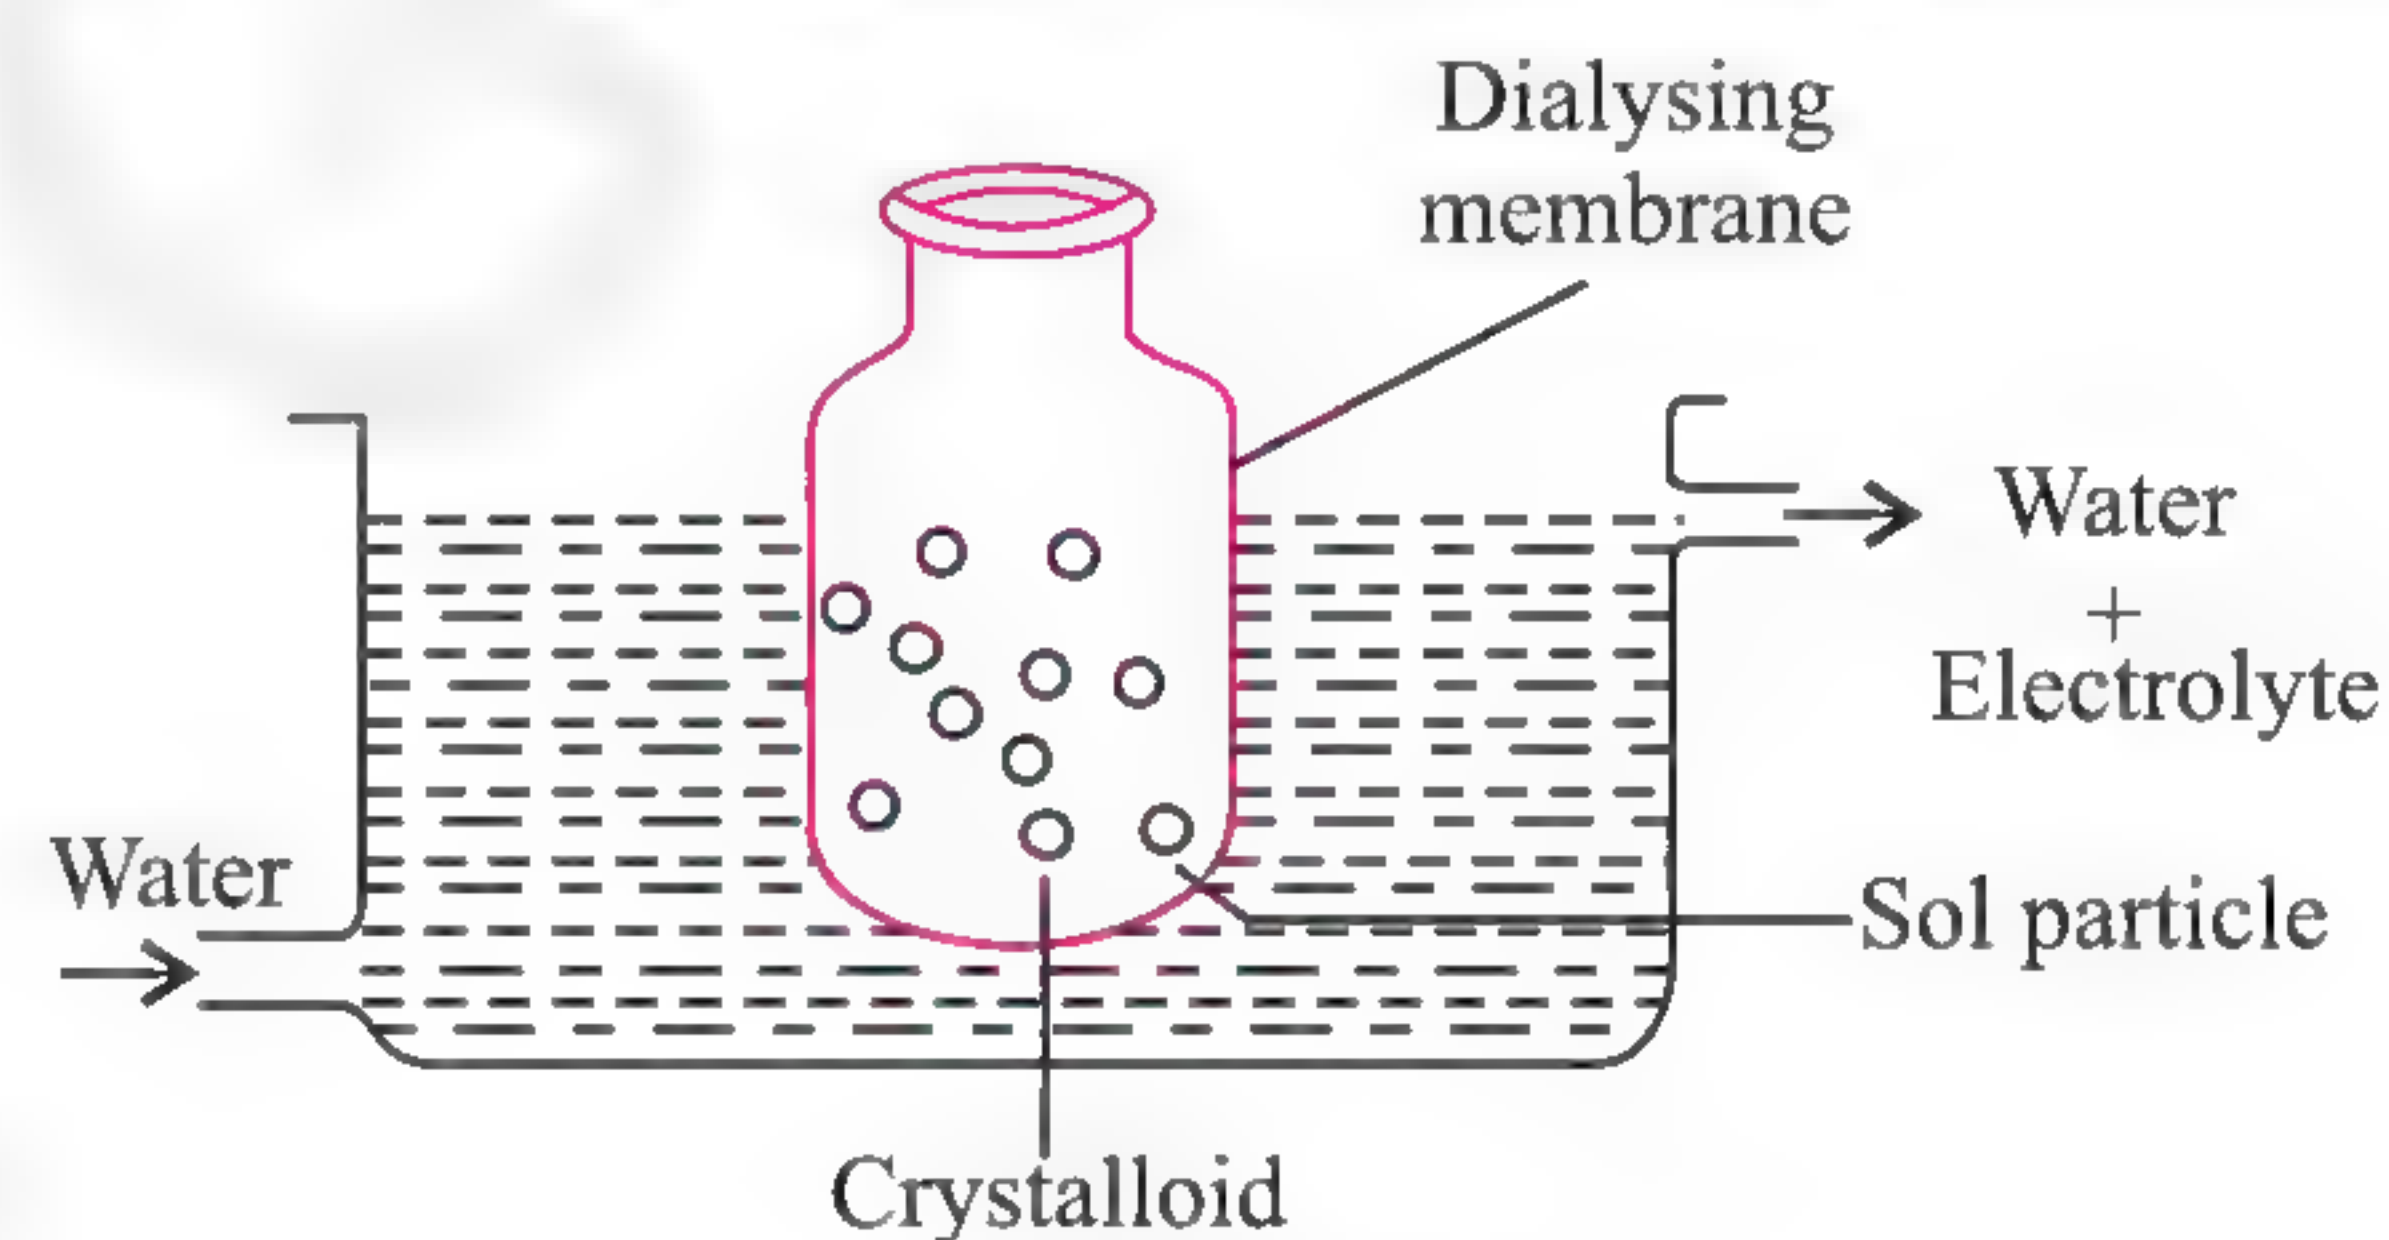

Fig. 5.19 Dialysis
- a. Dialysis:** The process of separating the particles of colloid from those of crystalloids by means of diffusion through a suitable membrane is called dialysis. Its principle is based upon the fact that colloidal particles cannot pass through a parchment or cellophane membrane while the ions of the electrolyte can pass through it. The colloidal solution is taken in a bag made of cellophane or parchment. The bag is suspended in fresh water. The impurities slowly diffuse out of the bag leaving behind pure colloidal solution. The distilled water is changed frequently to avoid accumulation of the crystalloids otherwise they may start diffusing back into the bag. Dialysis can be used for removing HCl from the ferric hydroxide sol. The method is shown in Fig. 5.19.